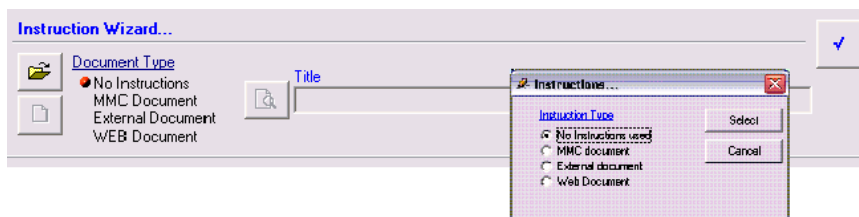

Figure 13. Instruction Wizard
1. From the Datasheet designer, click **Instructions** to display the Instruction Wizard shown in Figure 13.